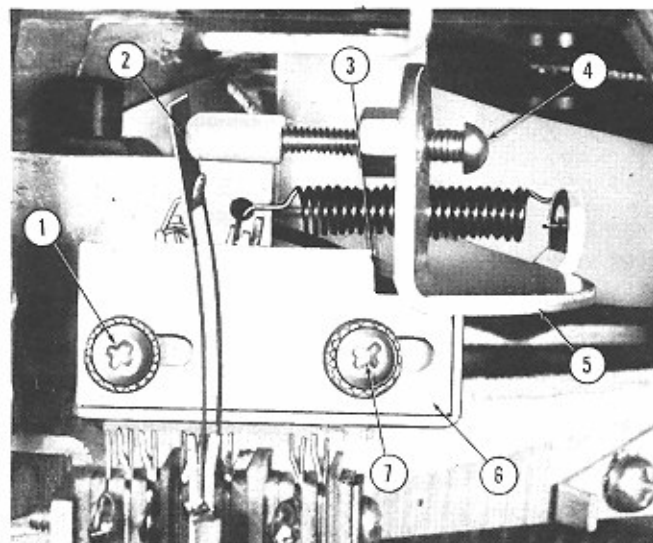
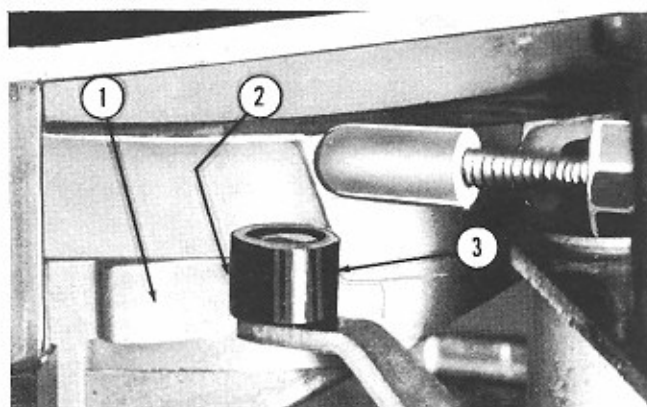

Fig. 59. STOP PLATE SETTING, MUTE AND PLAY SWITCH ACTUATING ARM
Fig. 60. STOP PLATE SETTING, MUTE AND PLAY SWITCH
(1) Set the mute and play cam lobe so that its timing mark aligns with the mark on the main cam.
(2) With the roller of the mute and play switch actuating arm at the base of the mute and play cam but still on the main cam adjust the stop plate (Item 6, Fig. 59) to provide 0 to 1/64" clearance between the roller and the cam as shown in Item 2, Fig. 60.
(3) Set the actuating screw of the mute and play switch actuating arm (Fig. 59) to allow 1/32" to 1/16" over-travel of the switch tab after the switch has actuated over-center, under the spring loading of the actuator arm. Check for proper action with the roller of the arm on top of the mute and play lobe in the play position. Too much over-travel of the switch at the original setting may produce improper action of the switch in the play position. In some cases it may be necessary to slightly reduce switch over-travel to obtain proper action in the play position.
(4) To check for proper action under operating conditions, cycle the mechanism to the play position and observe the turntable cam during trip switch operation. If there is any forward movement of the turntable cam when the trip switch actuates,